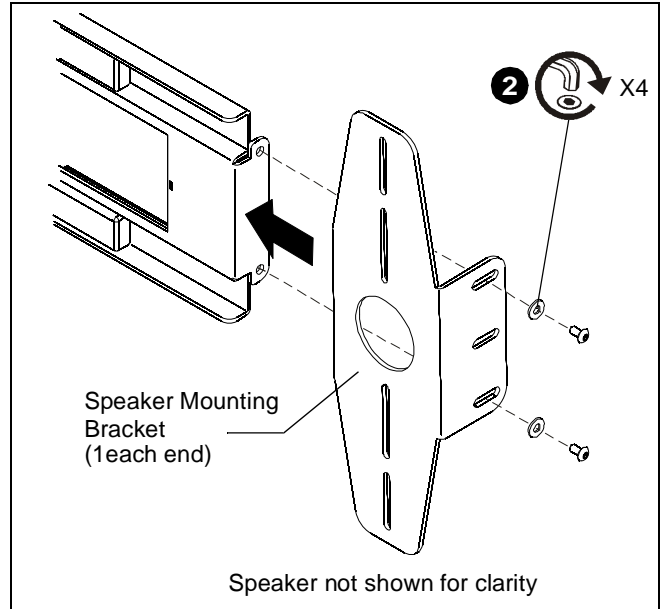

Figure 11
6. Install speaker mounting brackets with speakers to speaker mounting rails by using four button head cap screws and four washers set aside earlier. (See Figure 11)